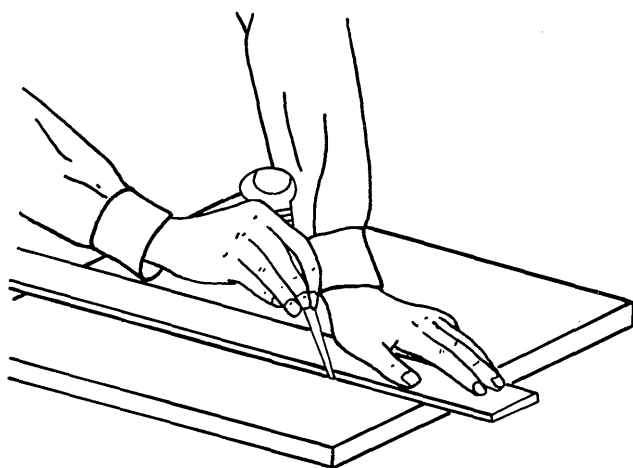

Figure 4-49. Scribing with an Awl
- (1) Place the metal to be scribed on a flat surface. Place a ruler or straightedge on the guide marks already measured and placed on the metal.
- (2) Remove the protective cover from the awl.
- (3) Hold the straightedge firmly. Hold the awl as shown in figure 4-49, and scribe a line along the straightedge.